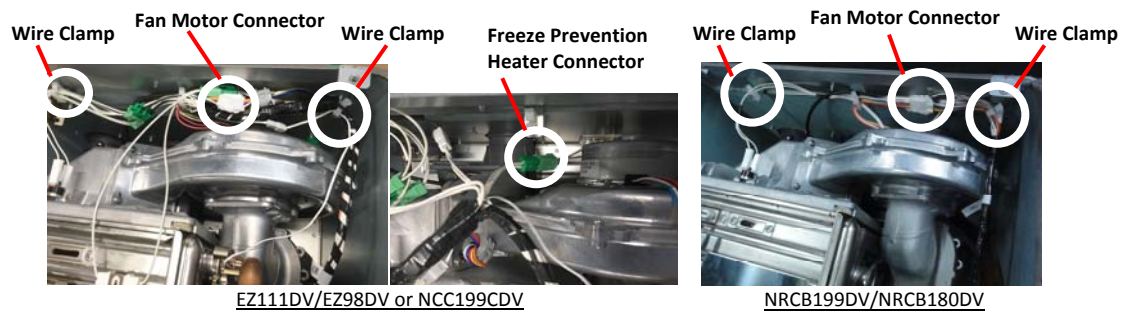

Figure 1
- 14) Connect the Fan motor connector. And tie the Wiring Harness by using the Wire Clamps (Figure 1).